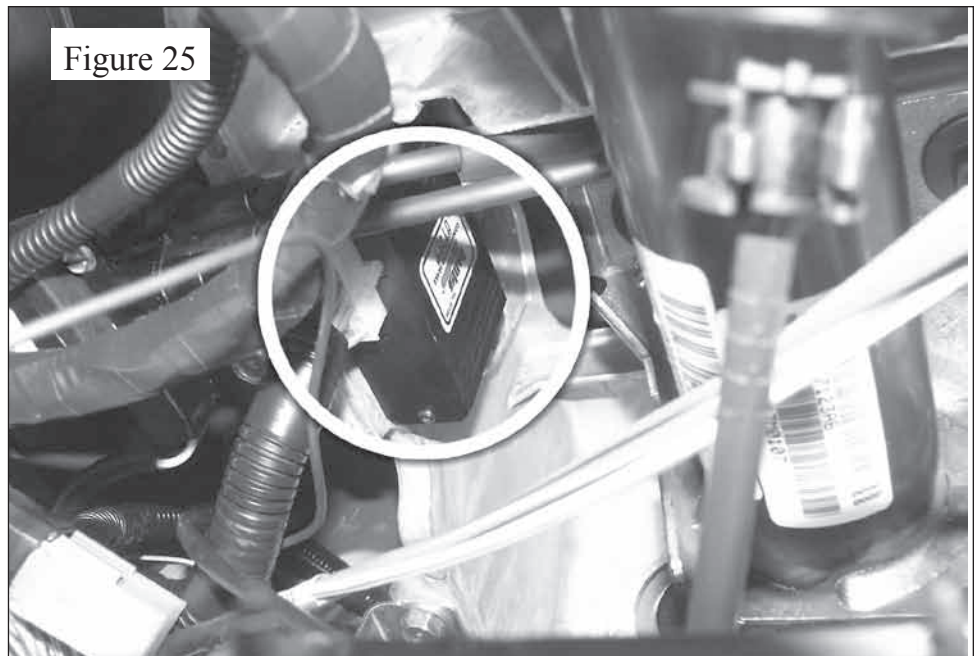

Figure 25
Peel the protective backing off of the adhesive tape on the backside of the CBC. Install the CBC onto the left aluminum structure supporting the steering column as shown in Figure 25. Hold the module against the vehicle structure for approximately one (1) minute while applying pressure to allow the adhesive to properly adhere to the surface.